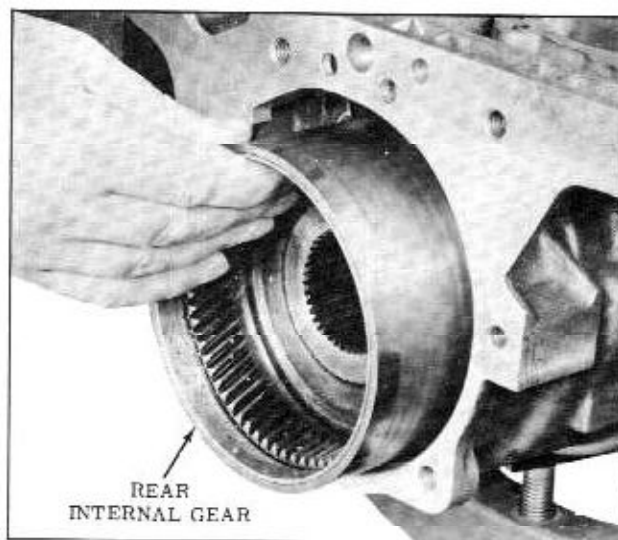

Fig. 3-97 Rear Internal Gear
12. Install the rear internal gear into the rear of transmission. (Fig. 3-97)